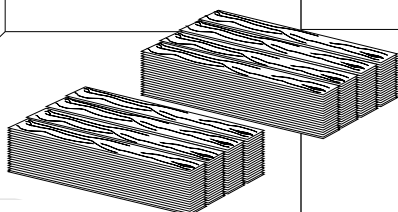

FIGURE 35
- ◆ Allow the hardwood to reach the moisture content under which it will be in service. Delay sanding and finishing the hardwood until it reaches its equilibrium. Break hardwood material down into small lots, and store the lots in the rooms in which they will be installed. You may need to allow four to five days for the flooring to become acclimatized to the moisture conditions in the house (see Figure 35).